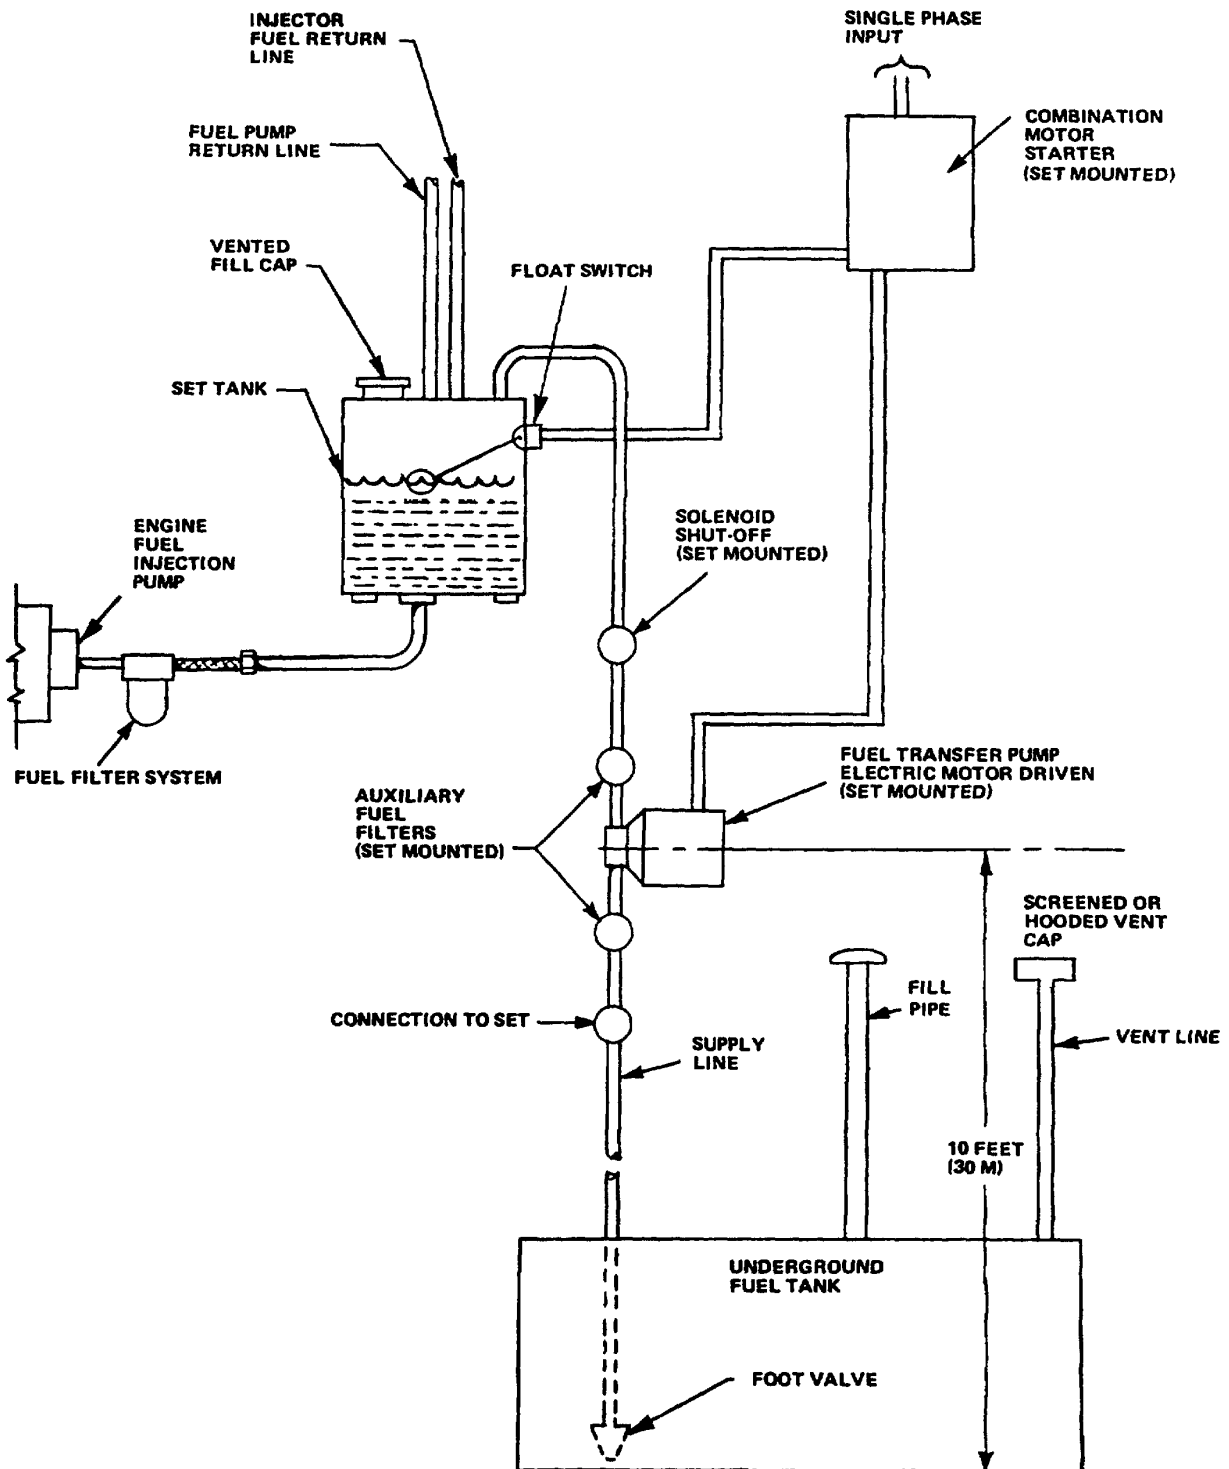

Figure 17-16. Auxiliary Diesel Fuel System
**17-64.** The auxiliary fuel tank should be vented so that air and other gases can escape to atmosphere (see figure 17-16 through 17-18). The vent must, however, prevent dust, dirt, and moisture from entering the tank. Where return lines are required, keep the return spaced at least 12 inches (30.5 cm) away from the pickup or fuel dip tube if this is not done, air bubbles could be entrained in the fuel and cause erratic operation. At least 5 percent of capability should be allowed in a diesel main tank for expansion of the fuel. Auxiliary fuel tank capacity can be computed by using table 17-6.